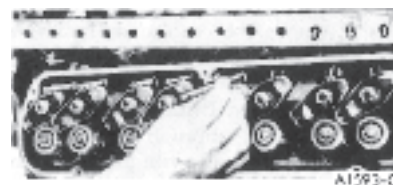

Fig. 18 Removing Valve Push Rod
5. Loosen the rocker arm stud nuts so that the rocker arms can be rotated to the side. Remove the push rods in sequence (Fig. 18) so that they may be installed in their original positions.